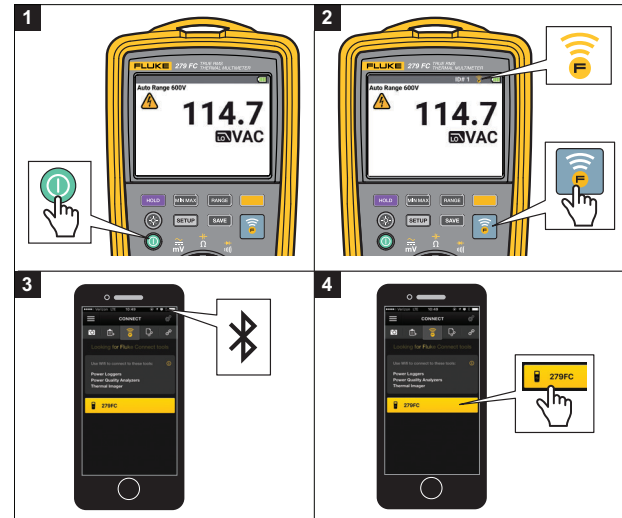

Figure 1. Fluke Connect™
1. Turn on the Multimeter. See Figure 1.